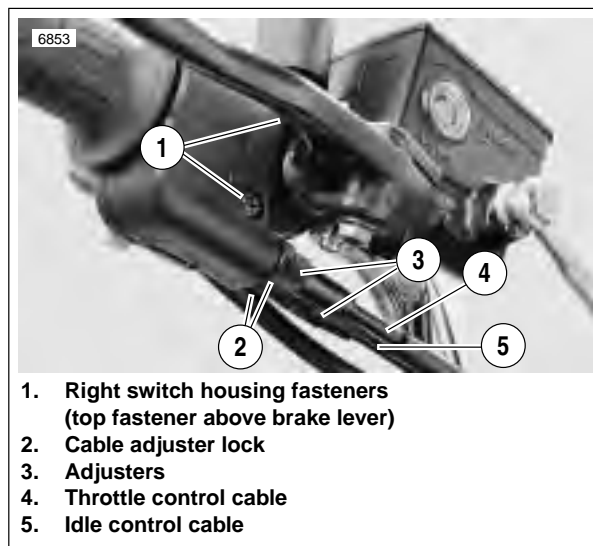
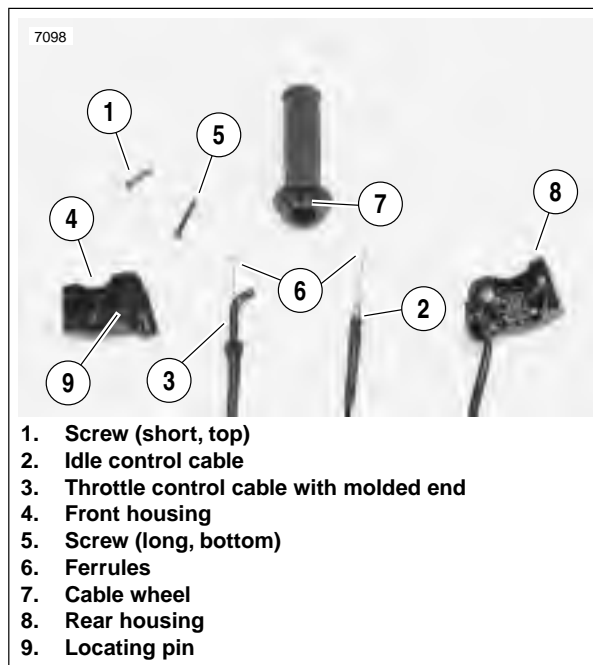

Figure 2-95. Throttle Control Cables
Figure 2-96. Cable Connections
1. See Figure 2-95. Loosen cable adjuster lock (thick disc) (3) on each cable.
2. Turn adjusters (3) in direction which will shorten cable housings to minimum length.
3. Remove fasteners (1) on right switch housing and separate housing from handlebar.
4. See Figure 2-96. Remove cables (2, 3) from notches in front housing (4).
5. Remove cables (2, 3) and ferrules (6) from cable wheel (7).
3. Install throttle grip and position ferrules (6) into cable wheel (7).
7. See Figure 2-95. Attach rear switch housing and position housings on right handlebar by engaging locating pin on front housing with hole in handlebar. Attach housings with two fasteners, installing longer fastener on bottom. Tighten to 25-33 in-lbs (3-4 Nm).